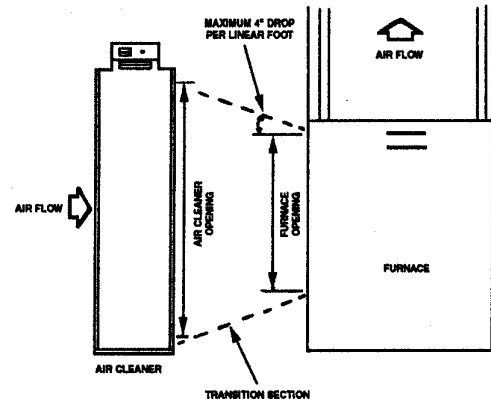
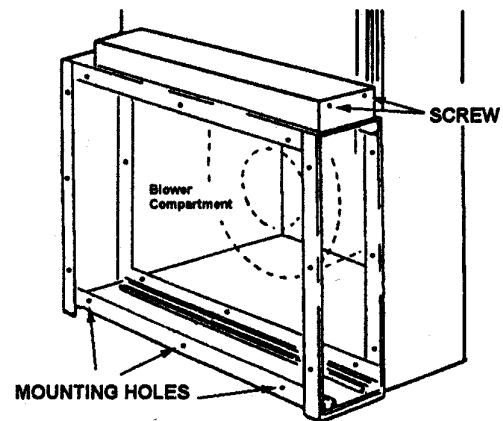

Figure 3
Figure 6
If the air duct does not fit the air cleaner cabinet opening, gradual transitions are recommended to reduce air turbulence through the air cleaner and maximize efficiency. Not more than 20° (about 4" per running foot) of expansion should be used on each side of the transition fitting (Figure 3).
CAUTION: Only a trained, experienced serviceman should install this electronic air cleaner. The power supply should be removed before installation. To remove the power supply, remove the two (2) screws (See Figure 6) in the top front of the cabinet. Remember to keep this hardware for reinstallation of the power supply when the air cleaner installation is complete. A thorough checkout of the unit installation should be completed before unit operation.
7. Locate the cabinet in the cold air return duct so that all of the return air flows through the unit (Figure 6). If the furnace and air cleaner openings are different, use a transition (Figure 3).
8. Mounting holes are provided for ductwork attachment (Figure 6). The .140" holes are sized for #8 sheet metal screws, or $\frac{1}{8}$ " rivets. If the adjoining ductwork is flanged, install the screws so that the screw heads are inside the cabinet. This will prevent damage to the prefilters and optional charcoal after-filter during removal and installation after cleaning.